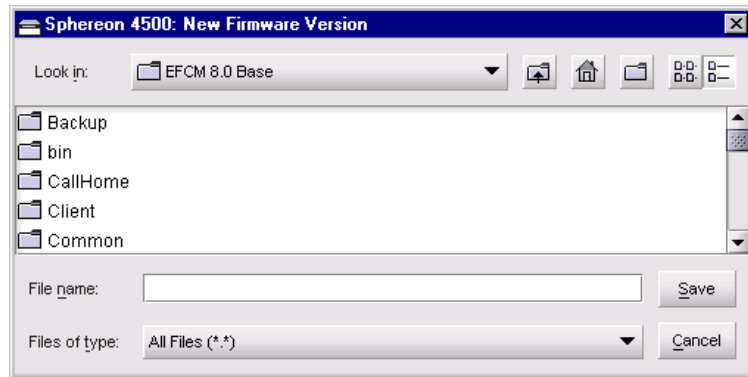

Figure 4-63 New Firmware Version Dialog Box
5. Click *New*. The *New Firmware Version* dialog box displays (Figure 4-63 on page 4-75).